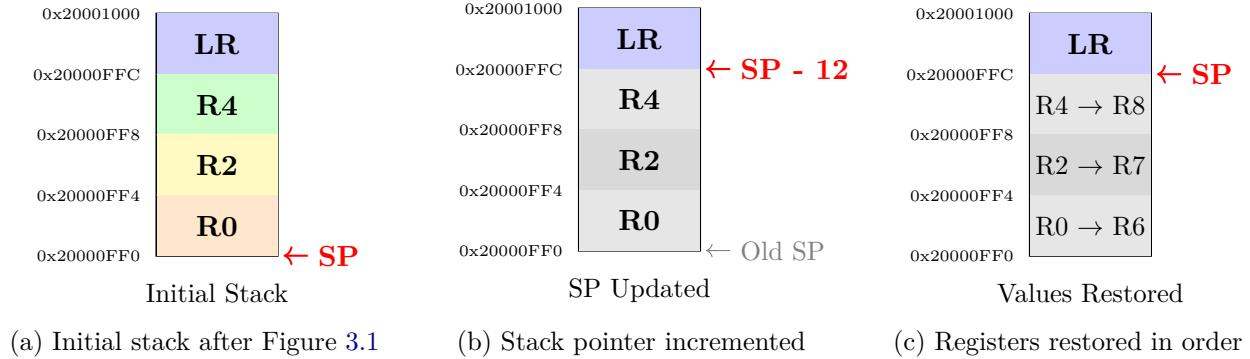

Figure 3.2: Stack operation sequence for **POP {R6-R8}**
**Explanation:** In Figure 3.2(a), the stack contains values saved earlier. Executing **POP {R6-R8}** **reclaims 12 bytes of stack space** (three registers) by moving SP upward in memory (Figure 3.2(b)). Then, as shown in Figure 3.2(c), registers are restored following the rule: the lowest-numbered register (R6) comes from the lowest address, followed by R7 and R8 from higher addresses. After the last load, SP points to the top of the reclaimed block, completing the reversal of the earlier push.